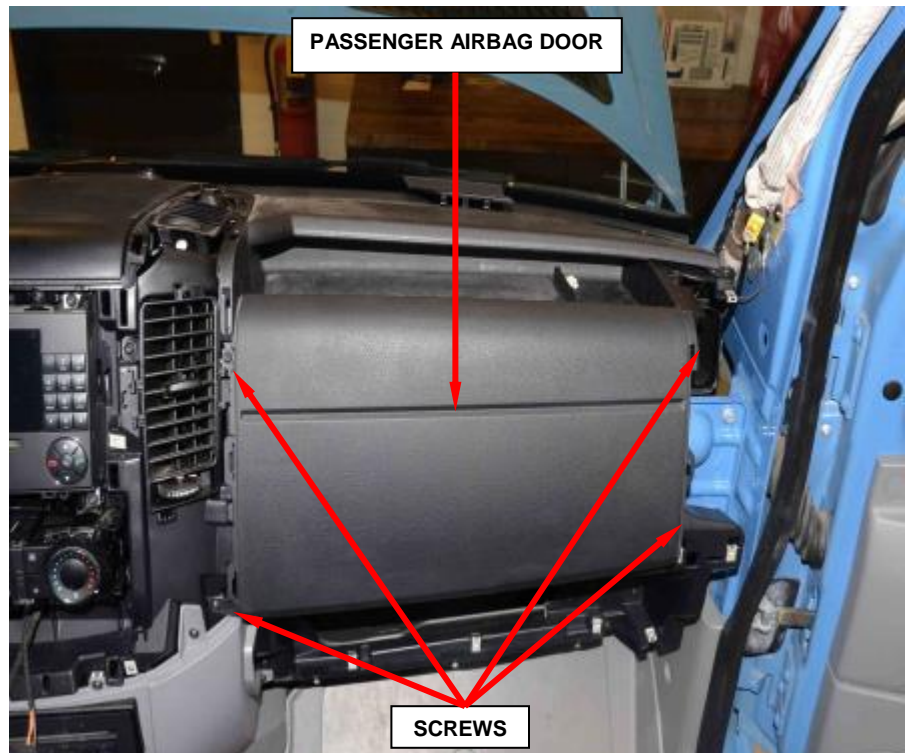

Figure 152 – Passenger Airbag Door
13. Remove and save the four screws that secure the tabs on the inboard and outboard ends of the passenger airbag door to the instrument panel base trim (Figure 152).